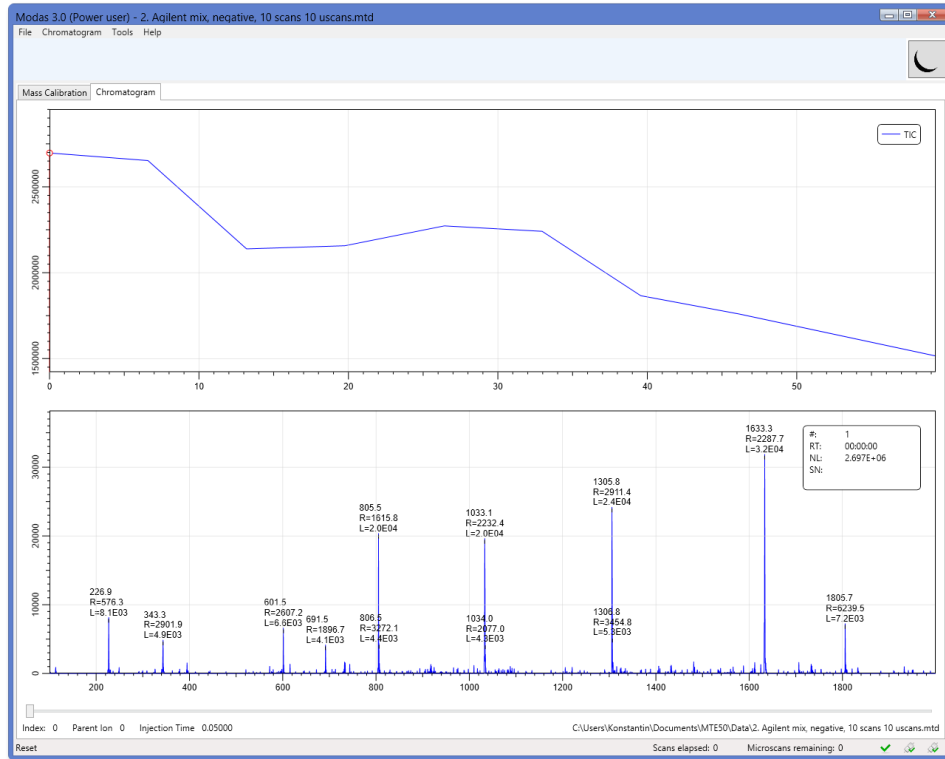

Figure 7.3. ESI mass spectrum of the calibration mixture.
For the proper mass calibration, it’s critically important to acquire a high-quality and unsaturated spectra. The user **must** run the data acquisition over a long enough period of time to make sure that the chosen ion source generates a stable MS signal. It’s recommended to acquire the data for the mass calibration with the AGC off. In order to achieve the highest resolution, gradually decrease the injection time (IT). If IT is too large, the peaks in the mass spectrum will be broad and the mass-shift will be skewed. After the proper IT is selected, set large enough number of microscans (typically 30-100) to obtain the high-quality spectrum. This spectrum can be either recorded on the hard drive or directly used for calibration as RT spectrum. Stop the data acquisition. Figure 7.3 represents a good quality ESI spectrum of MassTech’s calibration.